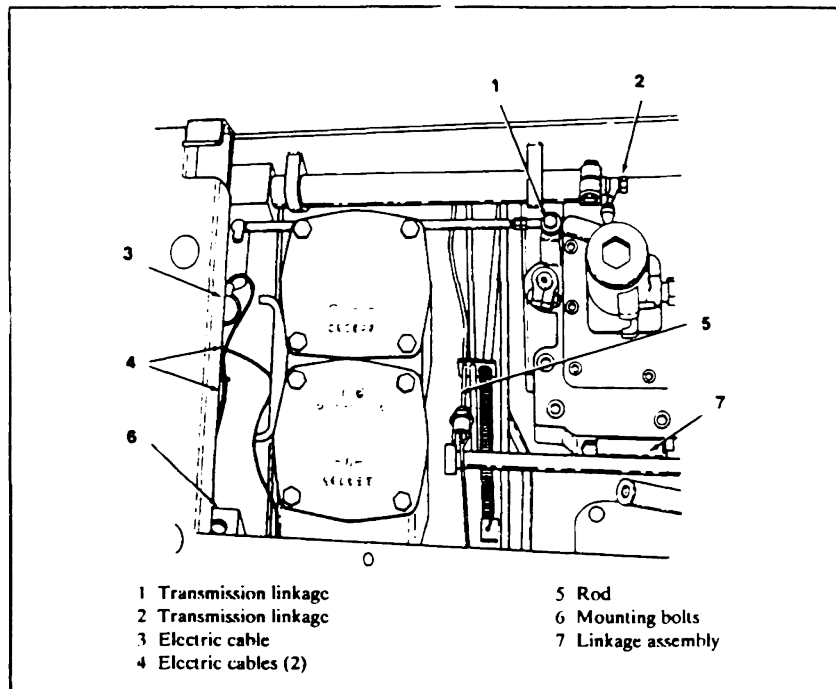

FIGURE 33. SEAT FRAME INSTALLATION
Step 9. Install the scat frame (Figure 33).